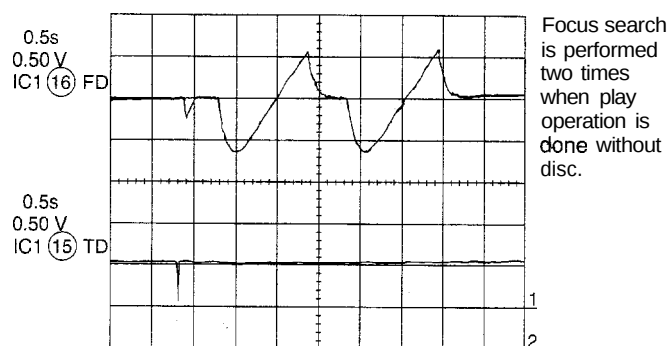

Figure 15-1
Does the output waveform of IC1(16)(FD) match that shown in Fig. 15-1?